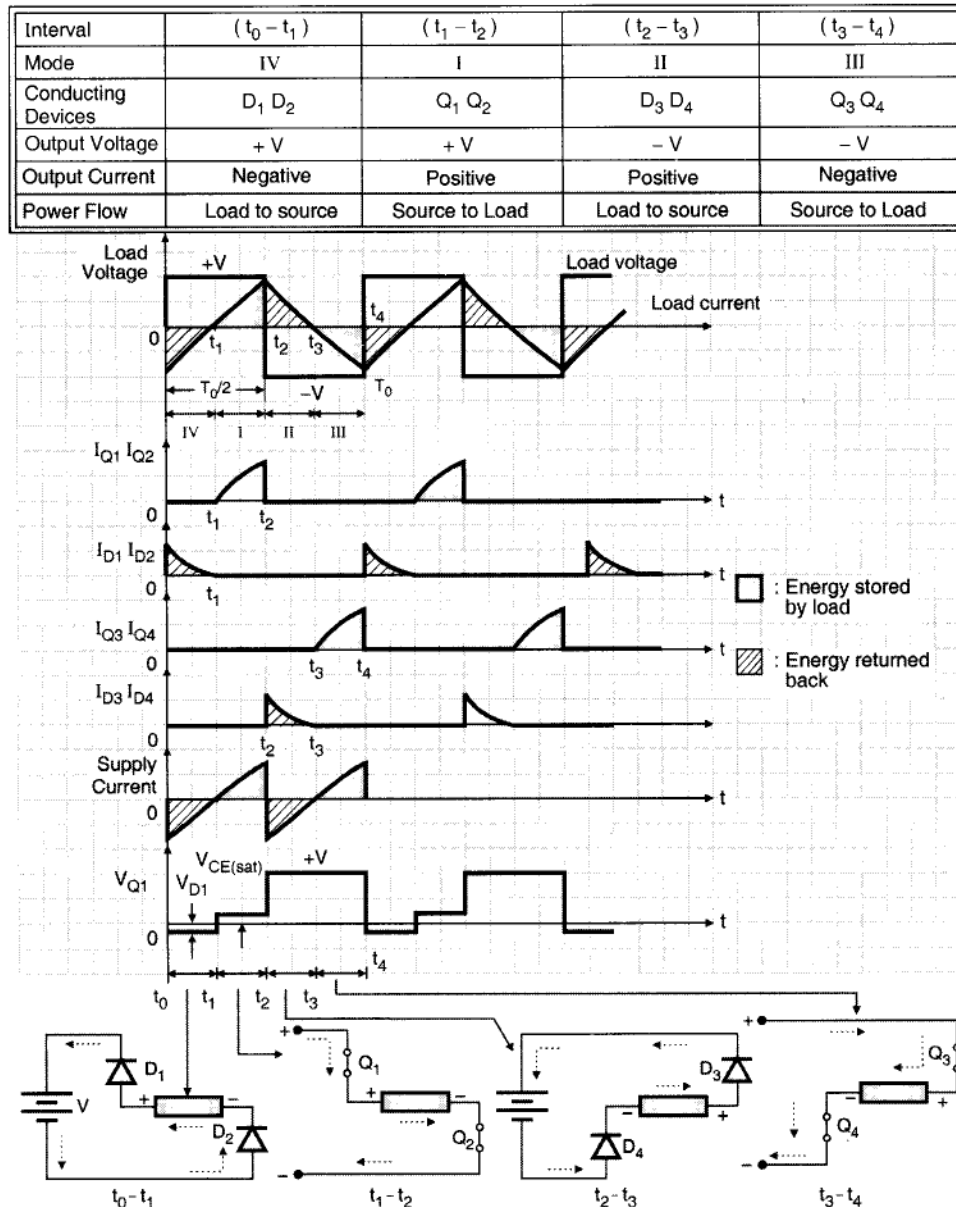

Fig. 3.15 : Voltage and current waveforms for single phase bridge inverter with RL load
- The conduction period with a very highly inductive load, will be $T_o/4$ or 90° for all the IGBTs as well as the diodes. (see Fig. 3.15).
The output voltage waveform is as shown in Fig. 3.15 .
- The rms output voltage can be found from the output voltage waveform of Fig. 3.15 as
2. As shown in Fig. 3.15 (c) the load voltage is positive from 0 to T/2 and negative from T/2 to T. The equivalent circuits for these periods are as shown in Fig. 3.15 (a) and Fig. 3.16 (b) respectively.